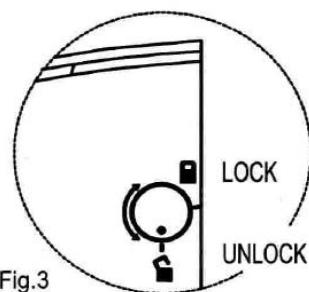

Fig.3
4. USE key to unlock and remove the soap dispenser casing. (Fig. 3)